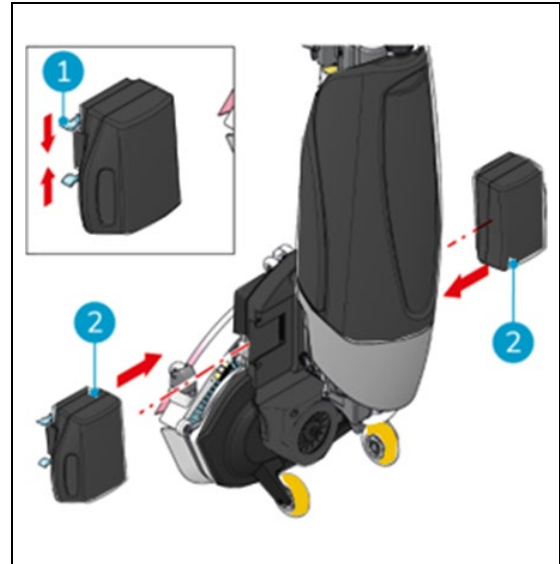

Figure 37
3. While pressing both plastic pins inwards (Figure 37, pos 1), pull each battery pack away (Figure 37, pos 2).